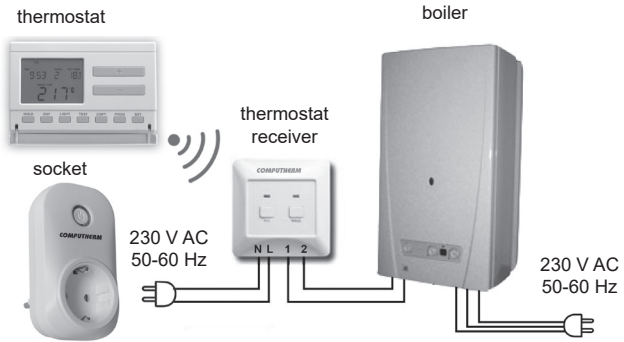

Figure 2.
Therefore, if you control your boiler with a **COMPUTHERM** wireless (RF) thermostat, we suggest you to connect the power supply of the receiver unit of the RF thermostat to the **COMPUTHERM S200** Wi-Fi socket instead (Figure 2), **as this way heating will be turned off in the OFF state of the Wi-Fi socket, while domestic hot water is still available.**